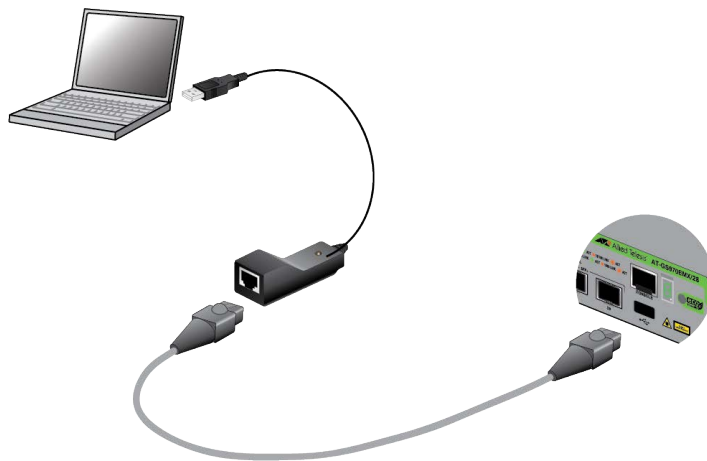

Figure 70. , Local Management with the VT-Kit3 Management Cable
- ❑ If your computer has a USB port, use a USB-to-Serial converter. To use the VT-Kit3 from Allied Telesis, connect the USB connector on the VT-Kit3 to a USB port on your computer or terminal. To connect the kit to the Console port on the switch, use a standard, straight-through Ethernet cable. Refer to Figure 70.